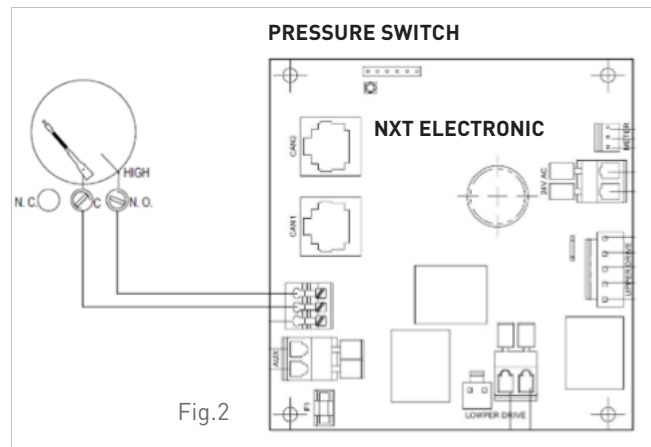

Fig.2
- Connect the switch to the NXT (see Fig. 2)